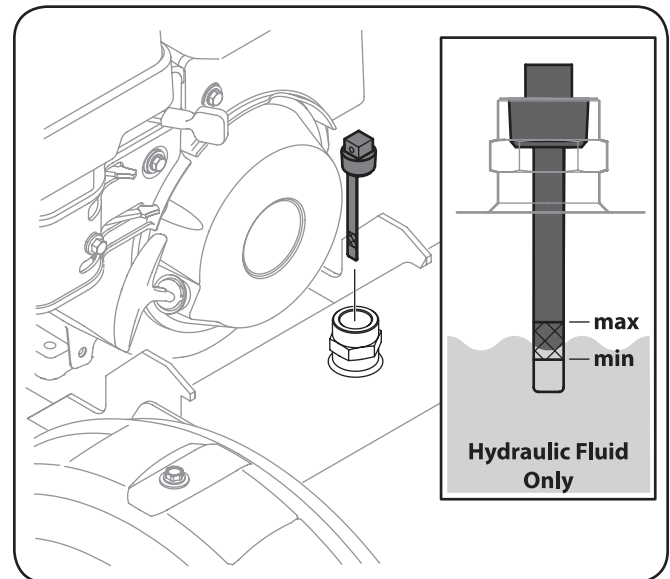

Figure 3-9
- Remove the vented reservoir dipstick, which is located in front of the engine on top of the reservoir tank. See Fig. 3-9.
- Check the fluid level using the dipstick. See Fig. 3-9. Do not overfill.